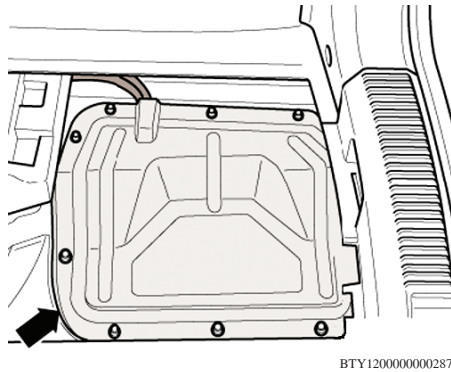

Fig. 6 Battery cover removal
5. Remove battery cover (arrow), **Fig. 6**.
7. Install battery cover (arrow), **Fig. 6**.